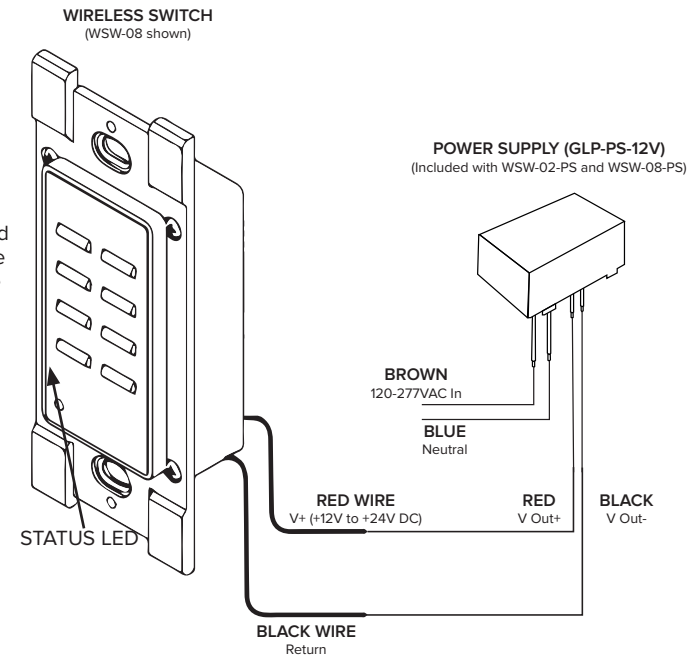

Figure 1 - Wiring the Wireless Switch
2. Using the included wire nuts, connect the switch and power supply as indicated in Figure 1.